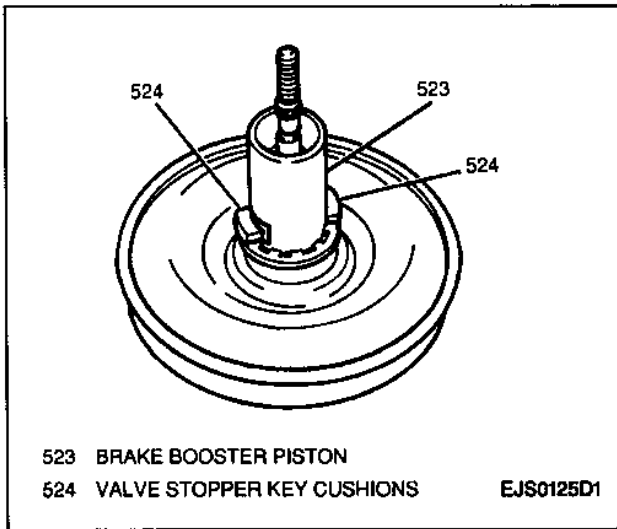

Figure 12—Valve Stopper Key Cushions
11. Valve stopper key cushions from valve stopper key (Figure 12).